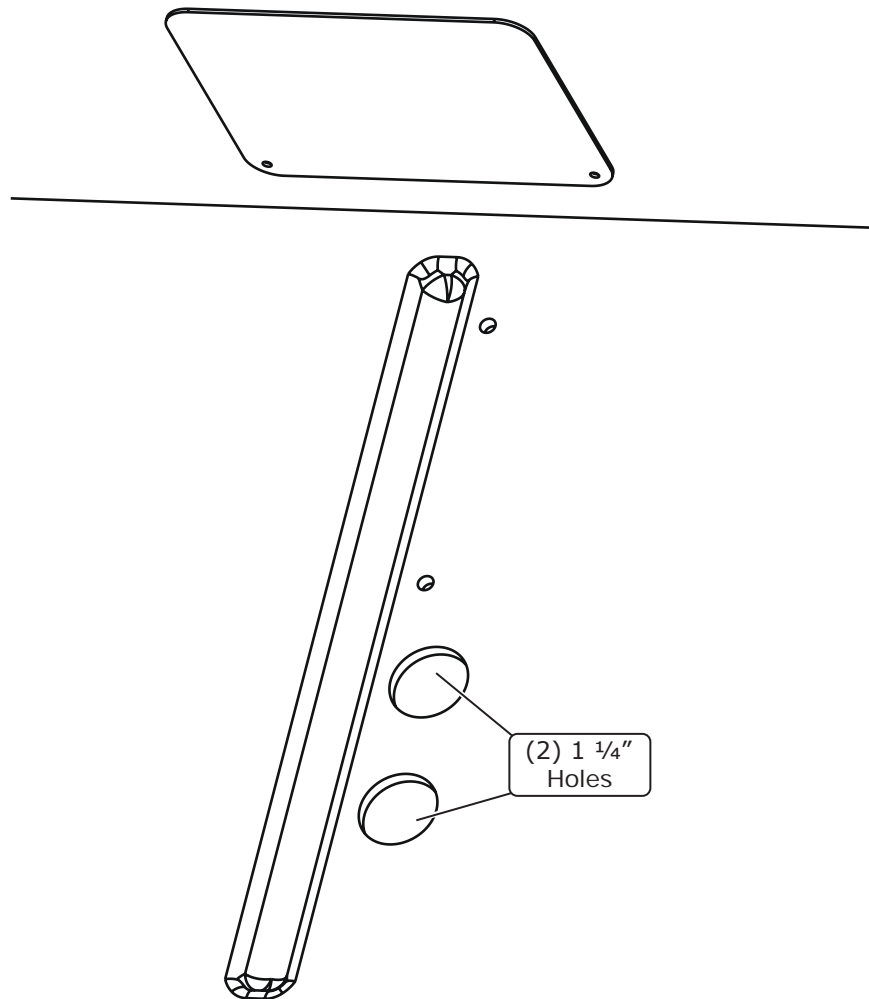

Figure 3
5. Remove the hardware and template from the firewall. Discard the template. Increase the diameters of the (2) lower 1/4" alignment holes to 1 1/4" (See Figure 3, below). **NOTE: Do not exceed hole size.**